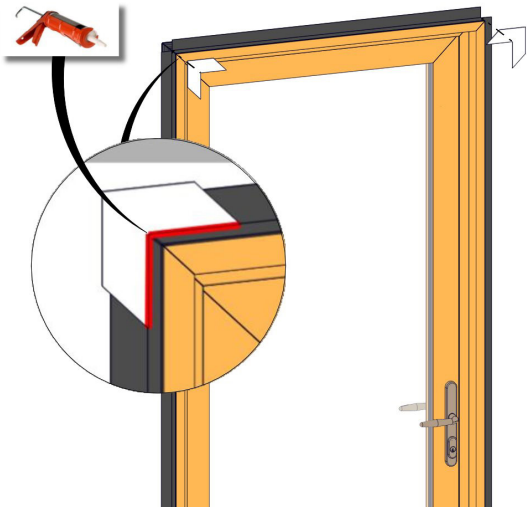

Fig. 6
- Seal the exterior corners where the foam gasket meets the position fin. (Fig. 6)